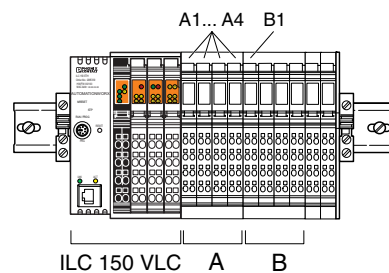

Figure 2-8 Connectors to remove if terminals are installed next to the ILC 150 VLC
- If Inline terminals are installed next to the Inline Controller (see Figure 2-8):
- Remove the directly adjacent Inline terminal (A).